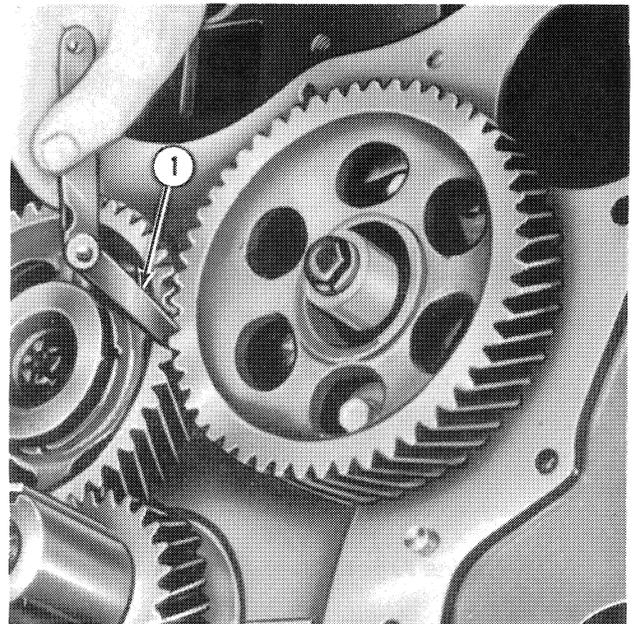

Figure 23
2. Check the backlash of the gears with a dial indicator or a feeler gauge, as shown in Figure 23.